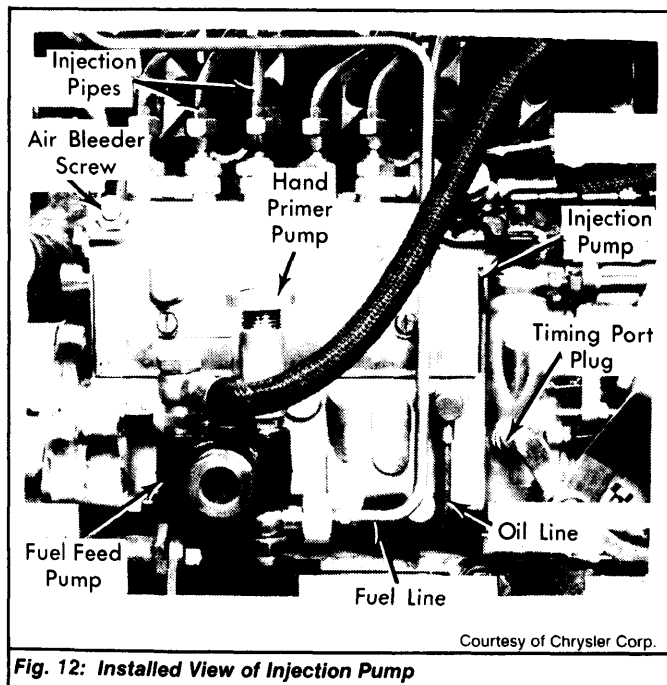

Fig. 12: Installed View of Injection Pump
7) Turn crankshaft clockwise approximately 30 degrees BTDC. Unscrew handle of priming pump on fuel feed pump to unlock. See Fig. 12.
8) Operate pump until fuel flows through plastic tube. Turn crankshaft one (1) degree. Stroke priming pump again. Repeat until no fuel flows in tube.